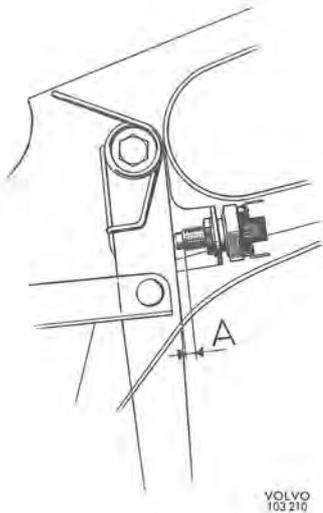
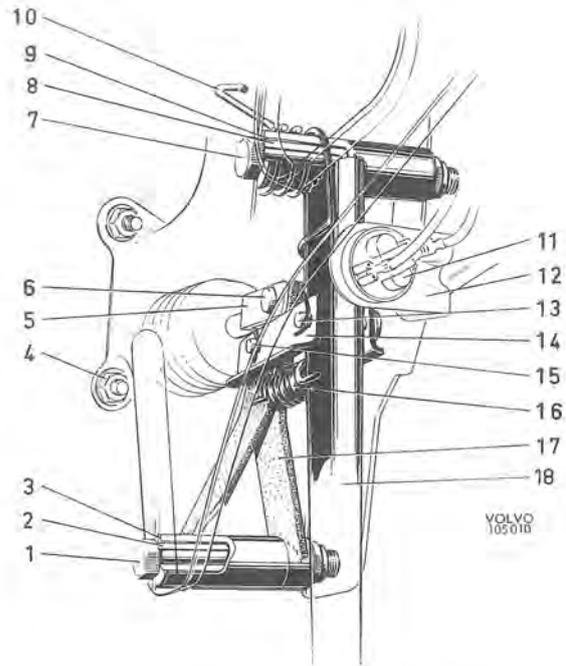

Fig. 5-68. Adjusting the brake light switch
Fig. 5-69. Brake pedal suspension components
Check the distance from the brass hub on the brake light switch to the brake pedal, see Fig. 5-68, when the brake pedal is released. The distance should be  $4 \pm 2$  mm (0.16—0.08"). To adjust, slacken the screw for the bracket (12, Fig. 5-69). Remember to tighten the screw after adjustment.
2. Remove the bracket (12, Fig. 5-69) for the brake light switch (11). Remove the split pin and bolt (13). Unhook the return spring (10) and the spring (16). Unscrew the nut for the bolt (7) and pull out the bolt.
3. Lift out the pedal (18).
4. Fit the new pedal bushes (9) and lubricate the bearing sleeves (8) with a light layer of ball-
2. Remove the bracket (12, Fig. 5-69) for the brake light switch. Remove the split pins and bolts (6-13). Unhook the return spring (10) and the spring (16). Unscrew the nuts for the screws (1-7) and remove the screws.
3. Lift out the pedal (17) and the lever (16).
3. Remove the bracket (12, Fig. 5-69) for the brake light switch.
4. Fit the bracket (12, Fig. 5-69), and adjust the brake light switch (11), see under "Adjusting the brake light switch" on page 5 : 27.
2. Disconnect the link arm (16, Fig. 5-69) from the brake pedal. Remove the bracket with clutch pedal stop from the cowl.